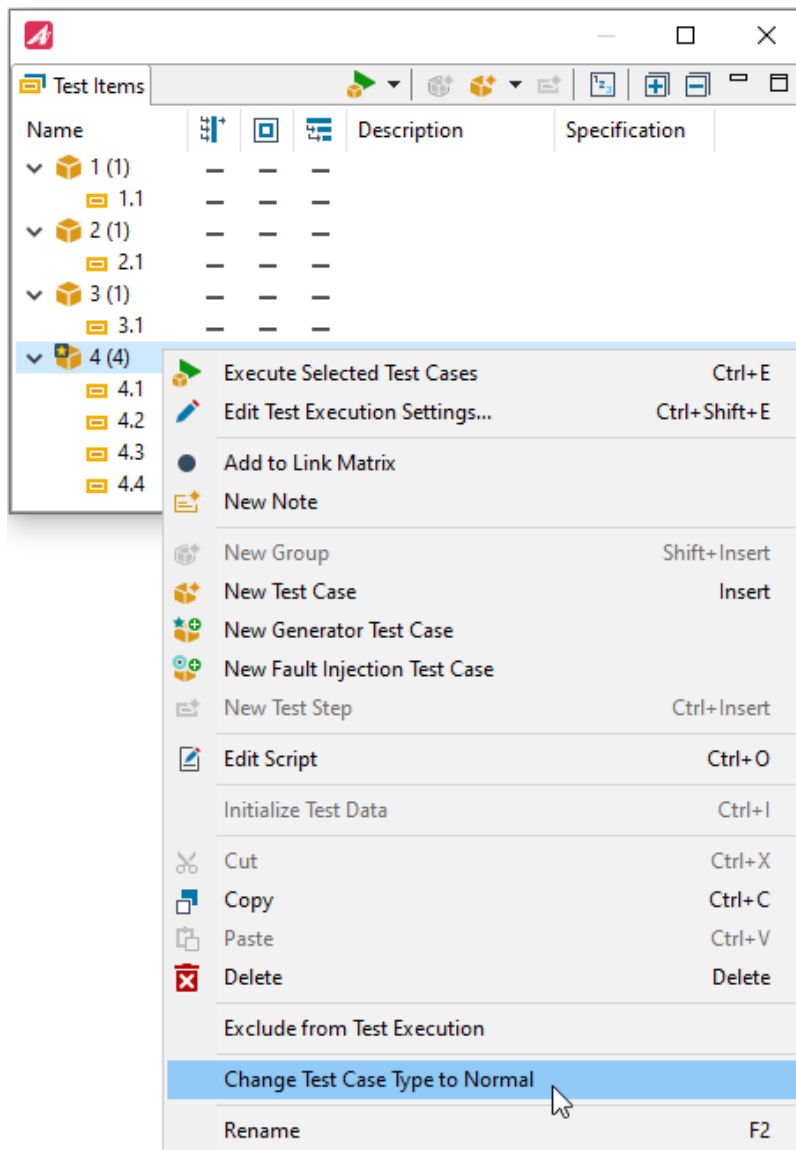

Figure 6.220: Selecting “Change Test Case Type to Normal”
- Right-click the test case and select “Change Test Case Type to Normal” (see figure 6.220).